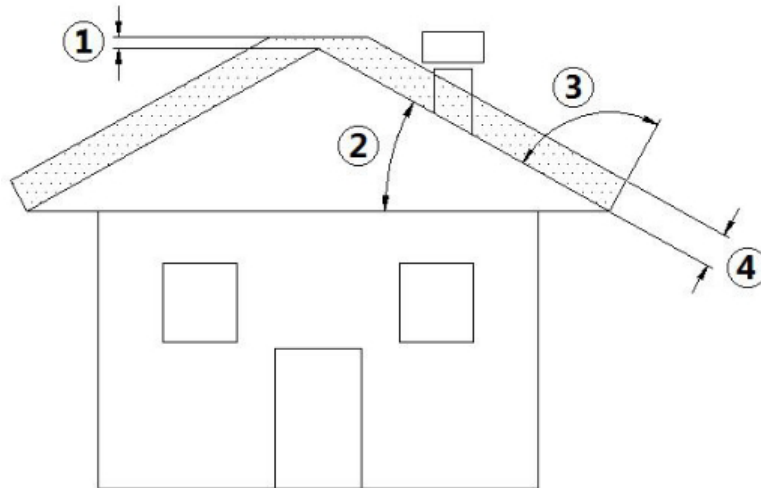

Fig. 3 - Inclined roof
LEGEND	Fig. 3 page 6
- The outlet height in the atmosphere must be away from the reflux area caused by the roof structure or by obstacles laying nearby (see **Fig. 3 page 6**).